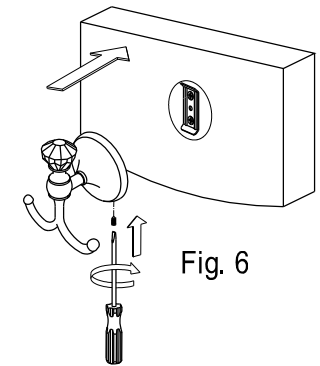

Fig. 6
- Step 6. Place the unit, with the small hole in the base underneath, over the mounting plate by tightening the slotted set screw with a flat head screwdriver until the base is tightly fixed (fig 6).
- Step 6. Place the unit, with the small hole in the base underneath, over the mounting plate by tightening the slotted set screws with a flat head screwdriver until the base is tightly fixed (fig 6).